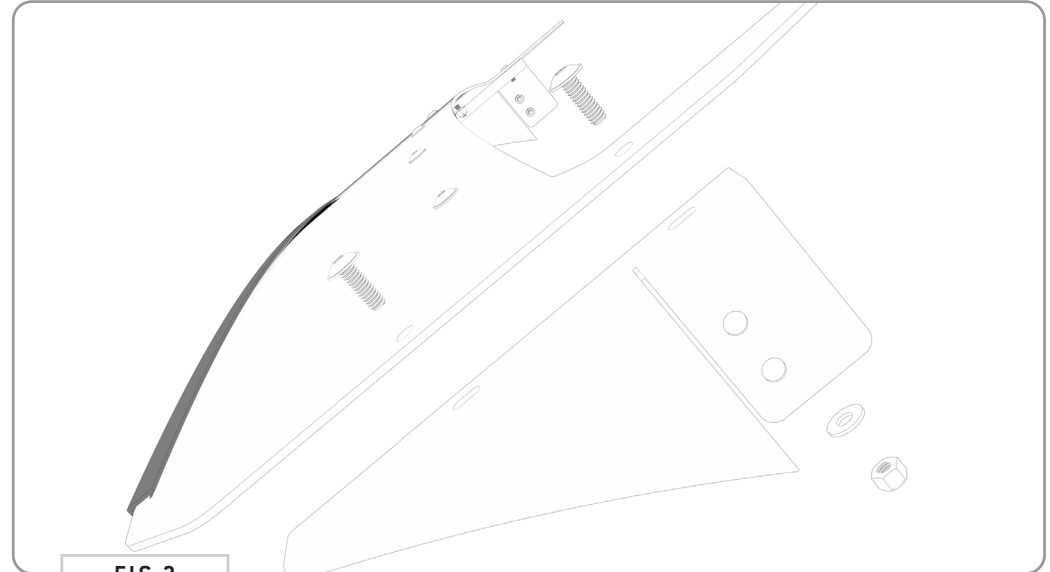

FIG 3
1.3 Driver and Passenger Side Fairing Brackets: Attach the **Driver and Passenger Side Fairing Brackets** to the Assembly using **1/4-20 x 0.75 Flanged Button Head Screws, Flat Washers and Nylon Locknuts (FIG 3).**